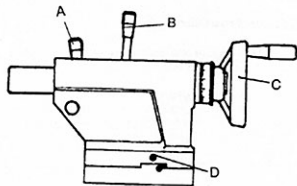

Fig.13
17. **Tailstock Quill Clamping Lever** (A, Fig. 13) - located on the tailstock. Lift up to lock the spindle. Push down to unlock.
18. **Tailstock Clamping Lever** (B, Fig. 13)- located on the tailstock. Lift up lever to lock. Push down lever to unlock.
19. **Tistock Quill Traverse Handwheel** (c, Fig. 13) - located on the tailstock. Rotate clockwise to advance the quill. Rotate counter-clockwise to retract the quill.
20. **Tailstock Off-Set Adjustment** (D, Fig. 13) - two hex socket cap screws located on the tailstock base are used to off-set the tailstock for cutting tapers. Loosening one screw while tightening the other off sets the tailstock.